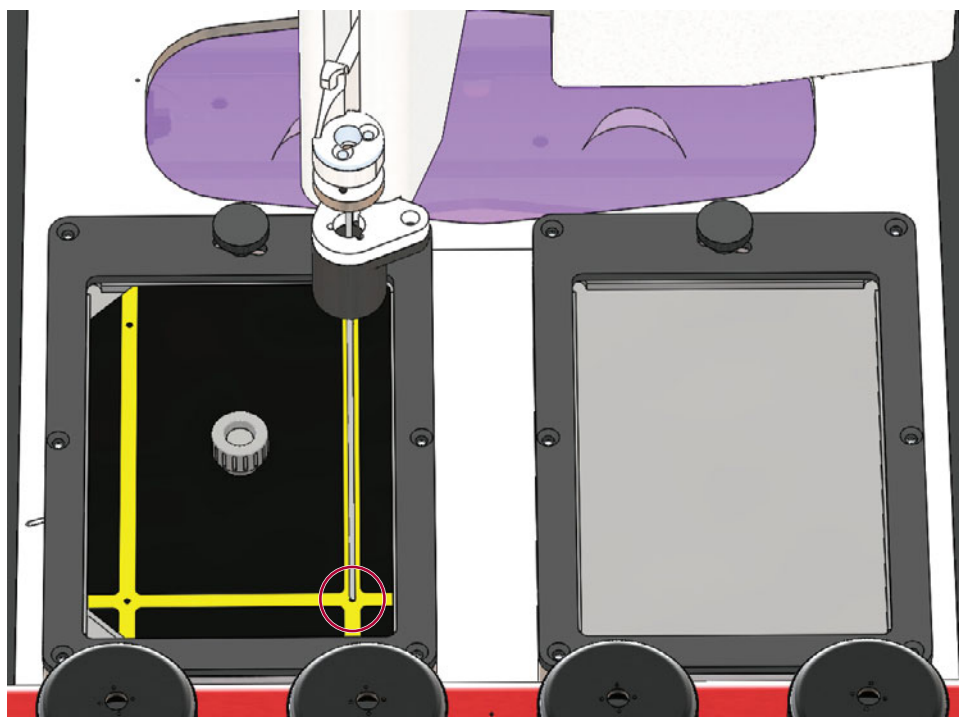

Figure 7. Sipper tube aligned in the A12 position.
- Check to make sure the sipper tube is directly over the black dot where the two yellow lines intersect. The sipper tube will be over the dot when it is in the center of the two yellow lines (**Figure 7**). If the sipper tube is not on the black dot or centered follow the same instructions for adjusting the **t** and **x** parameters for position H12.